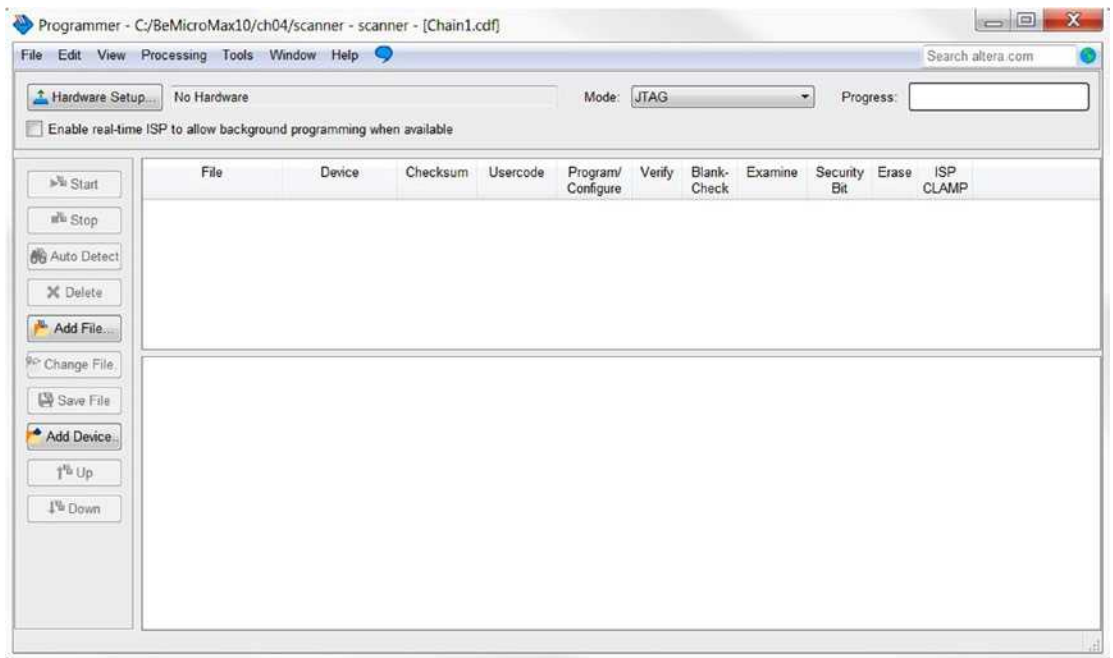
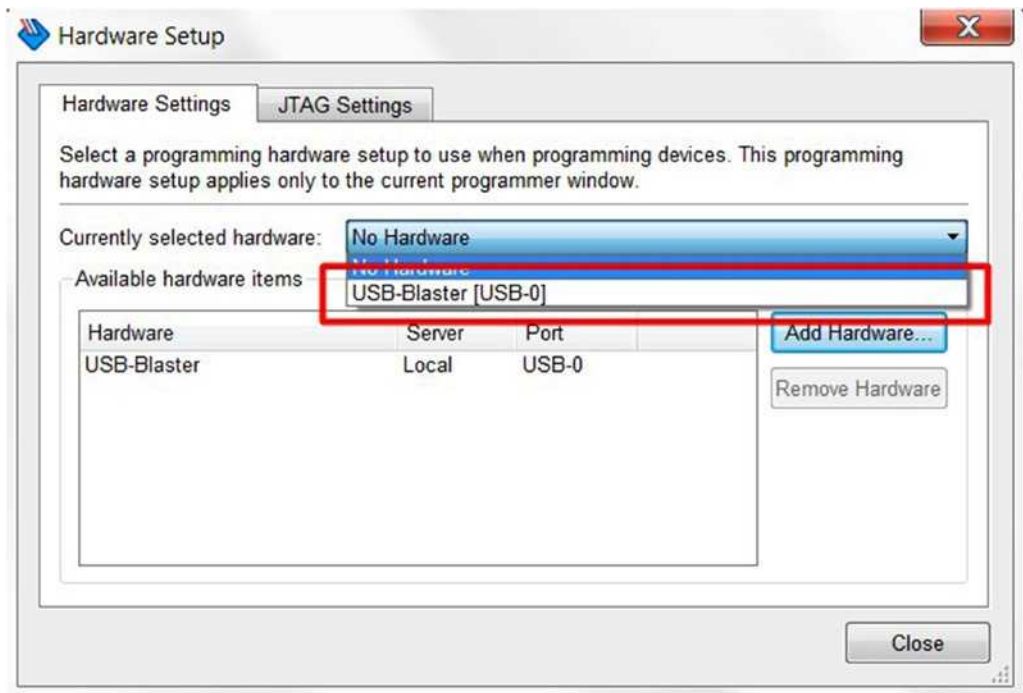

Figure 4-56. *Programmer*
Figure 4-57. *Programmer—Hardware setup*
2. Click the **Hardware Setup...** icon in the Programmer (Figure 4-56). In the Hardware Setup dialog select **USB-Blaster [USB-0]** and click **Close** (Figure 4-57).